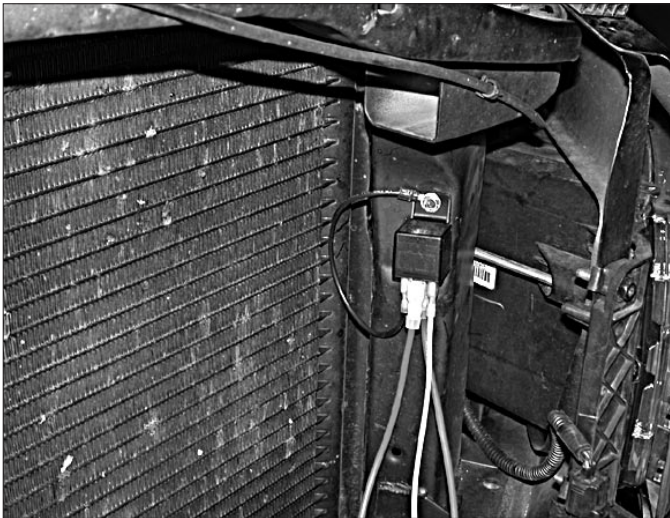

Fig. 14-a
- A. Using a supplied sheet metal screw, attach the supplied relay to the driver's side radiator core support per *Fig. 14-a*.